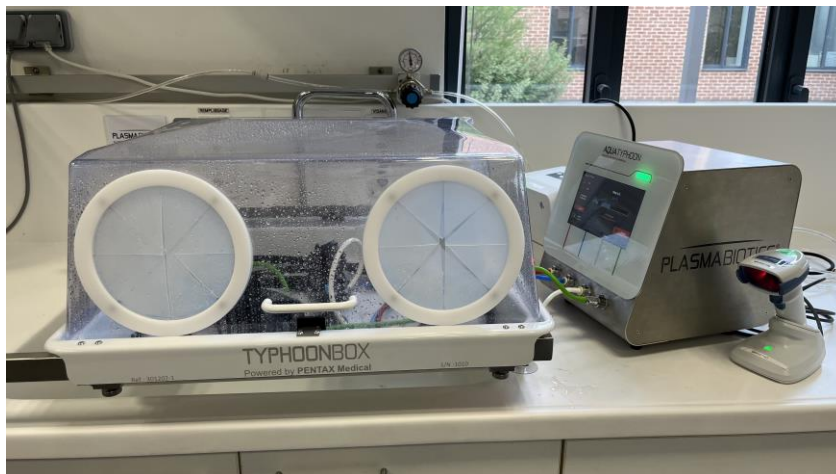

Figure 37. Automated cleaning cycle running
10. User starts the automated cleaning cycle of endoscope channels (see Figure 37). While the automated cleaning cycle is running (duration: 2 to 10 minutes depending on the endoscope type), the user may take care of other tasks in the reprocessing unit.